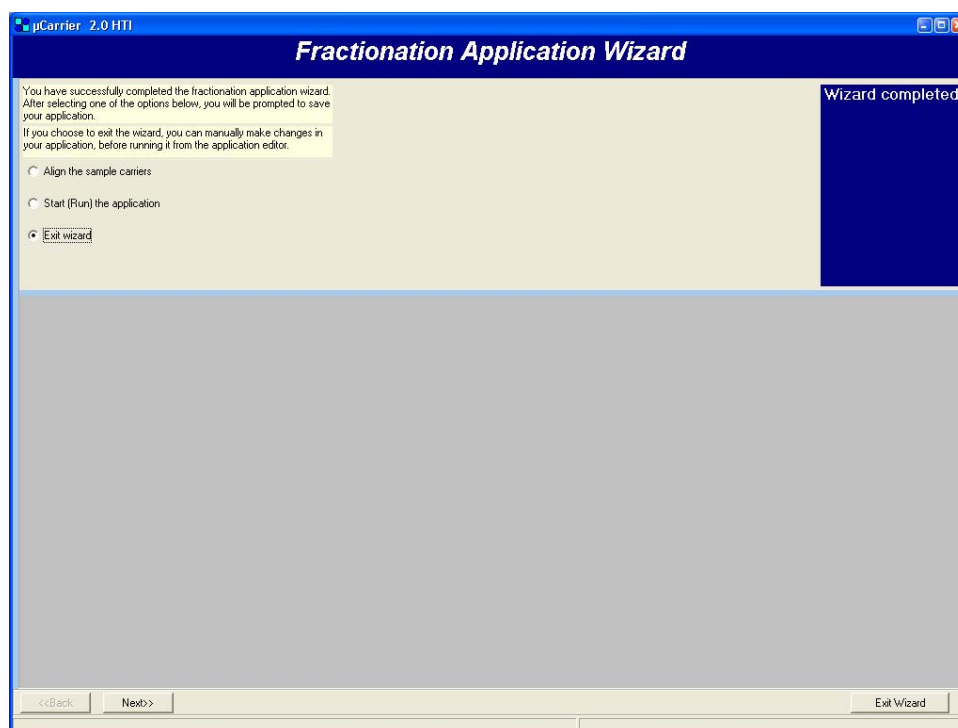

FIGURE 2-44 The Fractionation Application Wizard – Completed
- n) Choose **Next** for the last step of the wizard.(FIGURE 2-44).
The last screen of the wizard (FIGURE 2-44) offers three options.